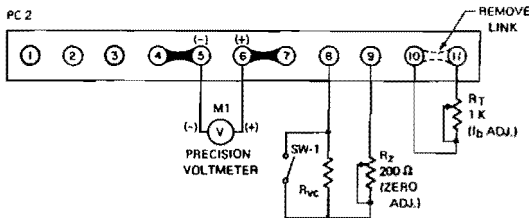

FIG. 3-6 PROGRAMMING RATIO CALIBRATION METHOD #3
- Connect calibration set-up as shown in FIG. 3-6.